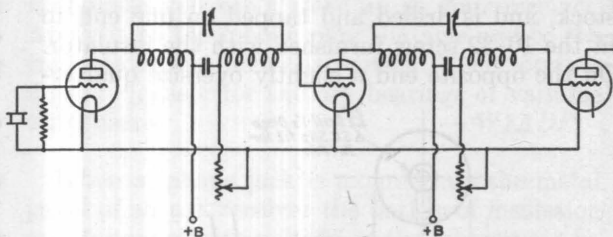

FIG. 3
D. A. GRIFFIN, W2AOE, Summit, N. J., has been using the circuit shown in Fig. 3 for frequency multiplication with very good results. Its chief feature is that series feed is used for both grid and plate without inductive coupling between stages, thus eliminating the necessity for any r.f. chokes in either circuit. The inductance is split into two parts, one half being in the plate circuit of one tube and the second in the grid circuit of the following tube. The tuning condenser is across the whole coil. The inner ends of the coil (those connected to the by-pass condenser) are at ground potential, and the plate and grid voltages are fed in at these points.